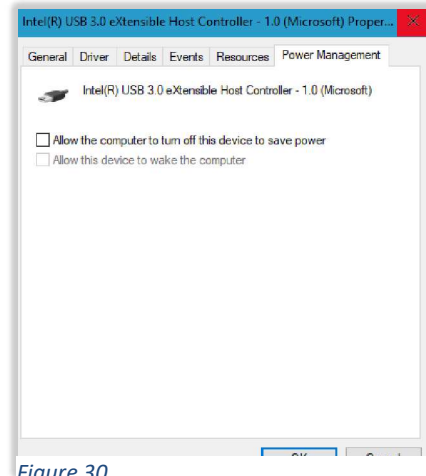

Figure 30
- b. Check the USB Power management settings. Make sure all the USB 3.1 Power Management boxes are unchecked so Windows will not turn off the USB 3.1 port to save power and possibly cause a disconnect problem. *Figure 30*